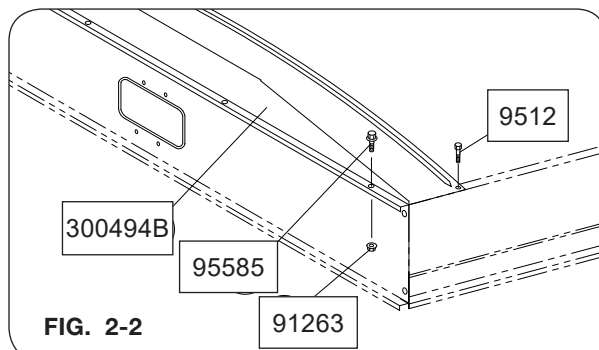

FIG. 2-2
2. Remove mounting bezel and measure 7/8" from most rearward hole (farthest from fender front edge) to locate third hole, see figure 2-2. Mark location and drill a 1 1/16" diameter hole. See figure 2-3.
2. Assemble the end caps (300494B) to the front and rear side boards with flange screws (95585) and flange nuts (91263). Fasten to right and left side boards with 1/4 x 1 self-drilling screw (9512). See FIG. 2-2.